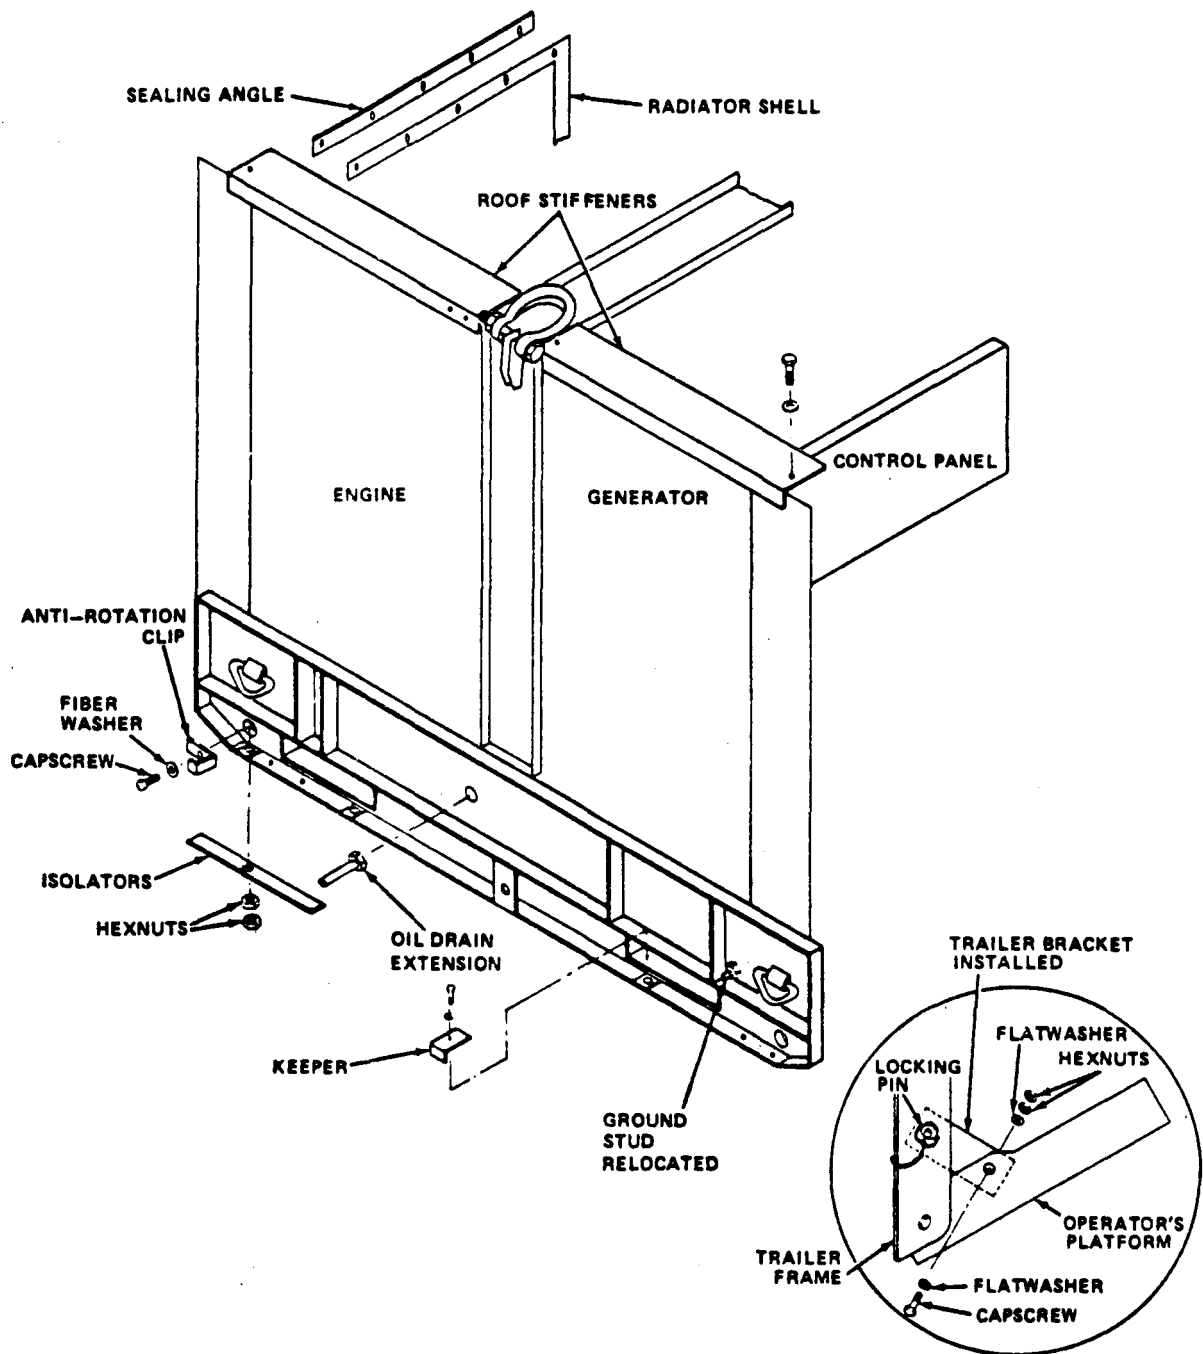

Figure 4-15. Roof Stiffeners, Sealing Angle, Oil Drain, Isolators, Bottom Panel Tray Assembly, and Trailer Brackets
(1) Using a suitable lifting device, raise generator set and place 6"x6" blocks under skids. Lower generator set onto blocks.
(2) Grease inside of generator set skids with grease (GAA).
(3) Using a suitable lifting device, raise generator set, remove 6"x6" blocks, and place 2"x4" blocks under skids of generator set. Lower generator set onto 2"x4" blocks. Ensure blocks are under skids only. Do not remove tension from lifting device.
(4) Slide bottom tray under generator set. Ensure weld nuts are positioned in down position. Weld nuts should be centered on fork lift tunnel holes.
(5) Raise bottom tray assembly, and install keepers, washers, and capscrews to secure one side of bottom tray assembly. (Refer to figure 4-15).
(6) Raise generator set, and remove 2"x4" blocks. Place a 1"x4" block under bottom tray assembly on other side and slowly lower generator set to push bottom tray assembly into position. Rubber must not bend or be allowed to tear loose when generator set is lowered.
(7) Install keepers, washers, and capscrews to secure the bottom tray assembly. (Refer to figure 4-15.)
(8) Raise generator set, and remove 1"x4" block. Lower generator set and remove lifting device.
(1) Raise side panel skirts, and install ground wire. Install anti-rotation clips, capscrews, and fiber washers in mounting holes in skid base. Lower side panel skirts.
(2) Glue isolators on skid base or surface of trailer. Refer to figure 4-15.
(3) Lower generator set onto trailer. Attach ground wire to trailer.
(4) Install washers and nuts to secure generator set.